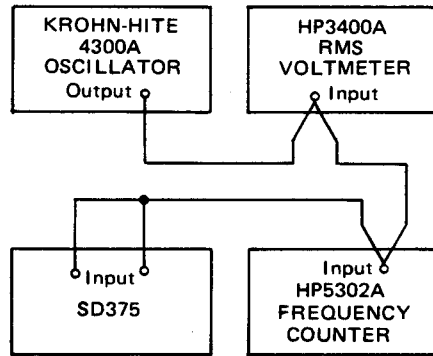

Figure 4-1. Initial Test Equipment Interconnect.
- c. Interconnect the Signal Generator, RMS Voltmeter and Frequency Counter to the instrument as shown in Figure 4-1.